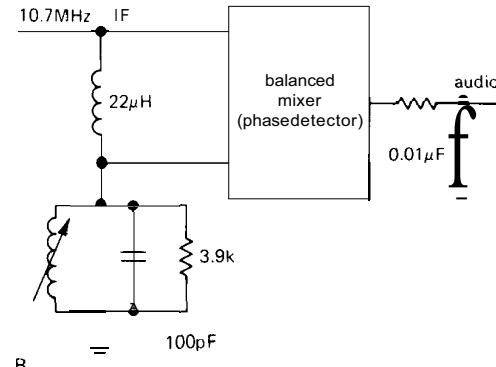

Figure 13.45. FM discriminators.
2. The Foster-Seely detector, or its variant, the "ratio detector," using a single tuned circuit in a fiendishly clever diode arrangement to give a linear curve of amplitude output versus frequency over the IF bandpass. These discriminators are superior to the simple slope detector (Fig. 13.45)
shift varying linearly with frequency across the IF **passband** (an LC circuit would do nicely). The resultant signal and the original signal are compared in a phase detector, giving an output that varies with relative phase. That output is the desired audio signal (Fig. 13.45).